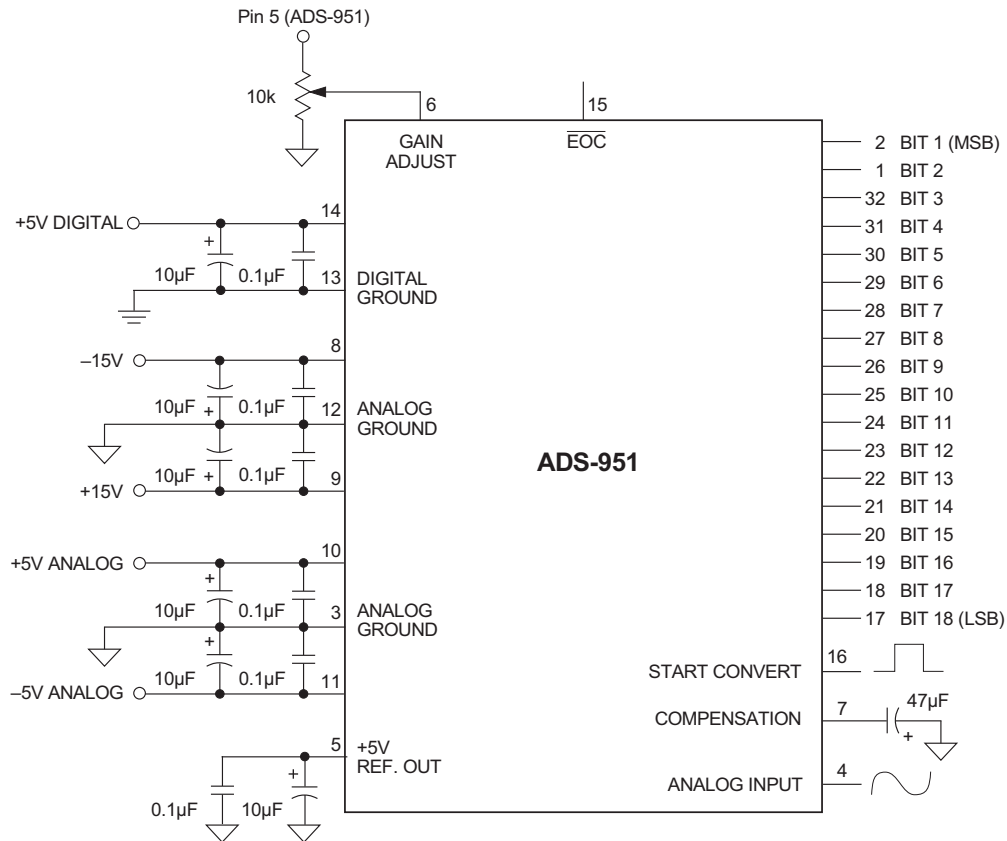

Figure 2. Typical ADS-951 Connection Diagram
2. The ADS-951 achieves its specified accuracies without the need for external calibration. If required, the device's small initial errors can be reduced to zero using the adjustment circuitry shown in Figure 2. When using this circuitry, or any similar offset and gain calibration hardware, make adjustments following warmup. To avoid interaction, always adjust offset before gain. Float pin 6 if not using gain adjust circuits.
Connect the converter per Table 1 for the appropriate input voltage range. Any offset/gain calibration procedures should not be implemented until the device is fully warmed up. To avoid interaction, adjust offset before gain. The ranges of adjustment for the circuits in Figure 2 are guaranteed to compensate for the ADS-951's initial accuracy errors and may not be able to compensate for additional system errors.